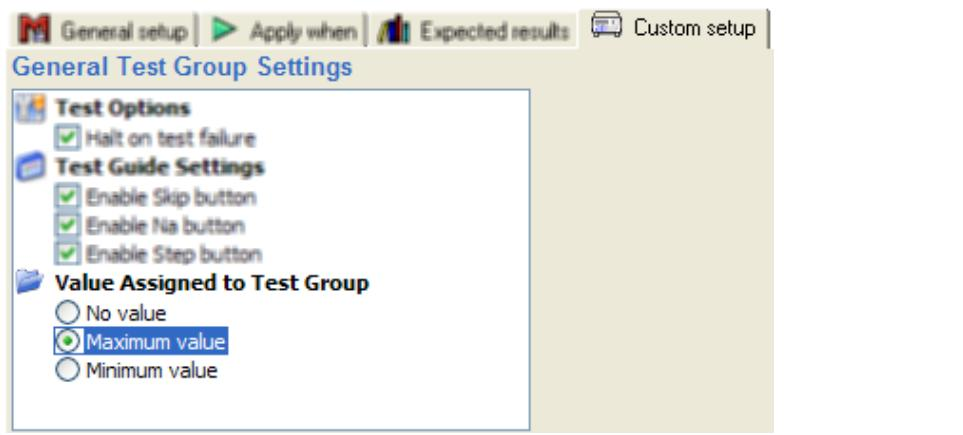

Figure 4-12. Assign Maximum Value to a Test Group
2. Click the test group in the template window and click the Custom setup tab to display the options shown in Figure 4-12.